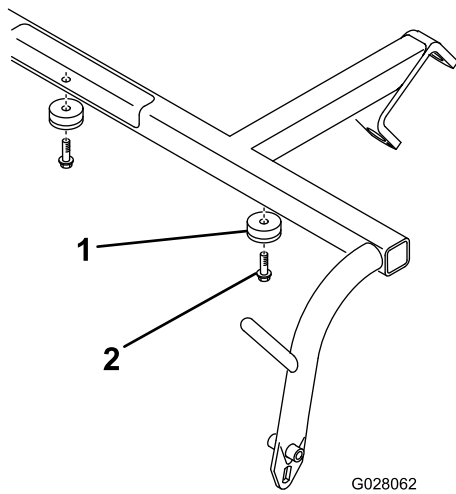

Figure 2
2. Mount the 2 recessed bumpers to the underside of each pull frame cross tube with 2 washer-head self-tapping screws (Figure 2).